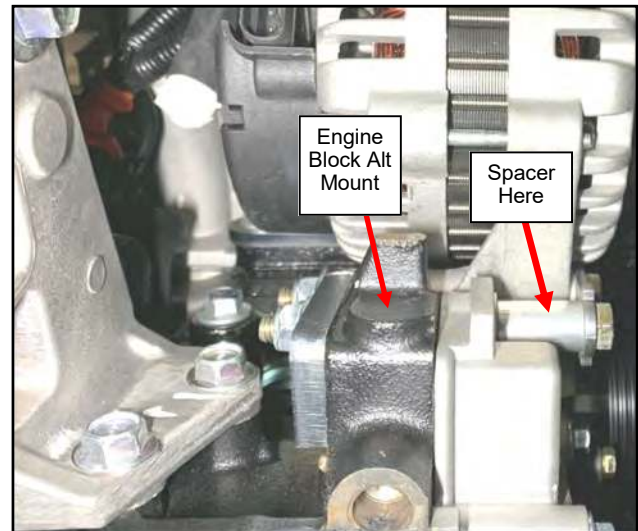

Fig. 3.6 (Install Alternator, Lower Mount)
3.6 Install the alternator into the engine block's alternator mount as shown in figure. 3.6.